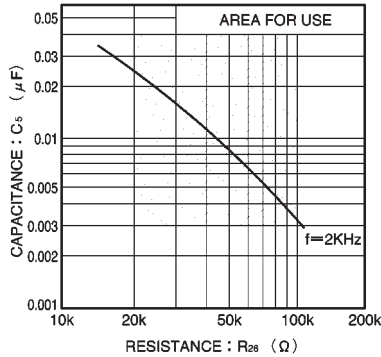

Fig. 7 Value of external components for oscillator ($V_{cc} = 5.0V$)
3) The external resistor R₂₆ connected to the oscillator (pin 30) should be in the range of 20kΩ and 100kΩ. If it is outside this range, oscillation may stop due to the influence of temperature (see Fig. 7).